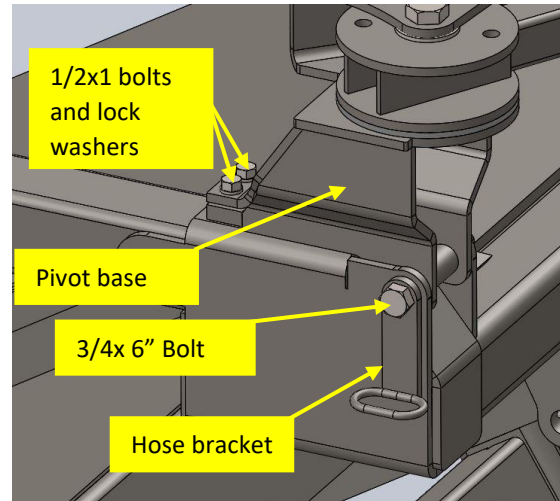
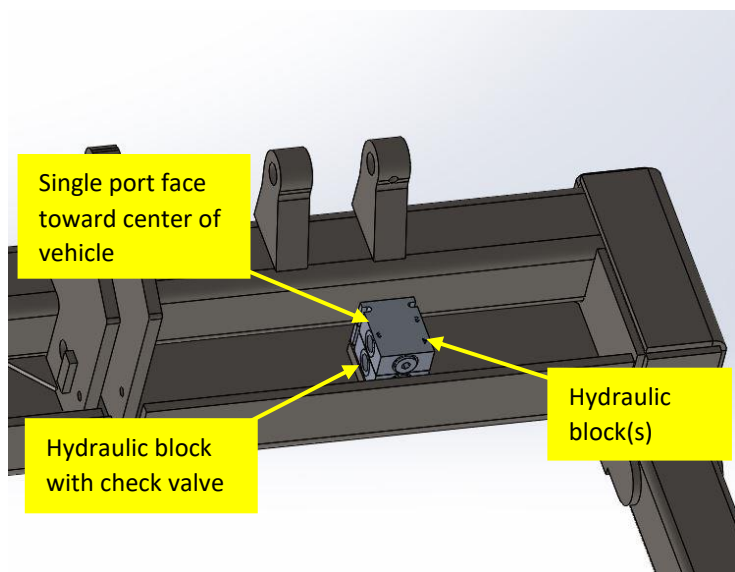

Figure 3
Figure 8
HYDRA FIGURE 8 INSTALLATION GUIDE
This guide will assist you in the installation of the **Hydra Figure 8** system. Read over all instructions prior to installation to familiarize yourself with the installation process.
| 1 | | Hydra Figure 8 | 1 |  |
1. Position and align the holes of the **Hydra Figure 8** pivot base onto the Reel lift arm with the pivot base between the two ears at the end of the arm. Thread the 3/4x6 bolt (**ITEM 19**) through the hose bracket (**ITEM 14**), through the outer ear, pivot base and inner ear and thread the 3/4 nut (**ITEM 20**) onto the bolt but do not tighten yet. Position the front tab of the pivot base on top of the threaded anchor plate and align the holes. Thread two (2) 1/2"x1 bolts (**ITEM 17**) and lock washers (**ITEM 18**) through the front tab and into the anchor plate. Tighten the installed bolts. **Figure 3**
5. Place both hydraulic blocks on top of the hydraulic block mount with their single ports facing towards the center of the vehicle ensuring that **the block with the check valve is at the bottom**. Thread both 1/4 x 3-1/4" bolts (**ITEM 23**) and flat washers (**ITEM 24**) through the hydraulic blocks and into the block mount and tighten. **Figure 8**
11. The quick coupler connected to the 38-1/2-inch hose on the top hydraulic block should be connected to the outside female quick coupler on the Reel Lift control box and the bottom 38-1/2-inch hose should be connected to the inside female quick coupler on the Reel Lift control box. The Tool Circuit lever will operate the **Hydra Figure 8**.